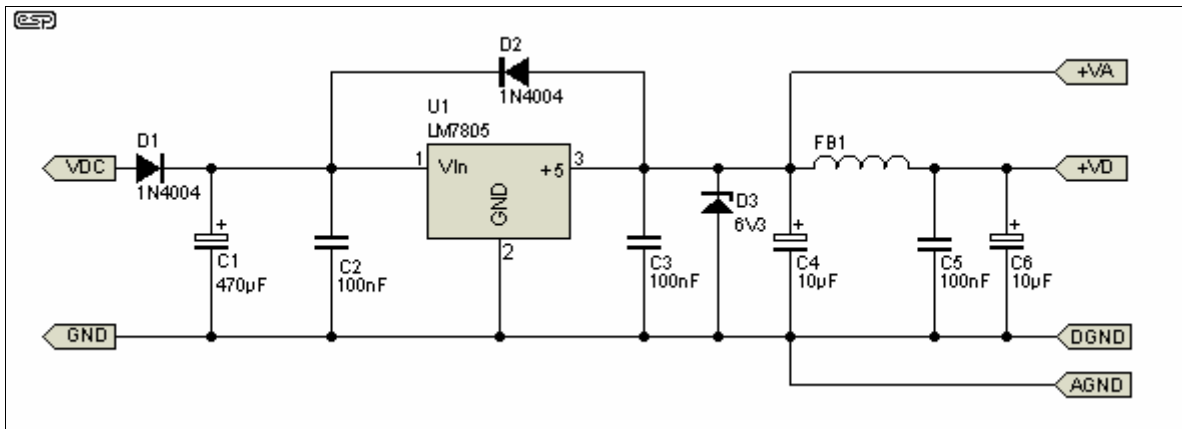

Figure 1 - Power Supply
5. If the DAC is to be coupled with a DIY pre-amp or EQ, especially ones utilising high speed op-amps (such as Project 28, etc.), great care must be taken to bypass the feedback loop with a proper value capacitor. Without it, frequency response is so great that artefacts of digital switching may become audible when the shelving treble control is increased. For Project 28, a 1nF capacitor across the 2k7 feedback resistor (Figure 1) will limit the high end to about 60 kHz and rids the extra noise completely. This may also be a problem with some commercial preamplifiers with tone controls, as the the treble control is almost always shelving. Commercial parametric EQ does not normally use a shelving high frequency control.